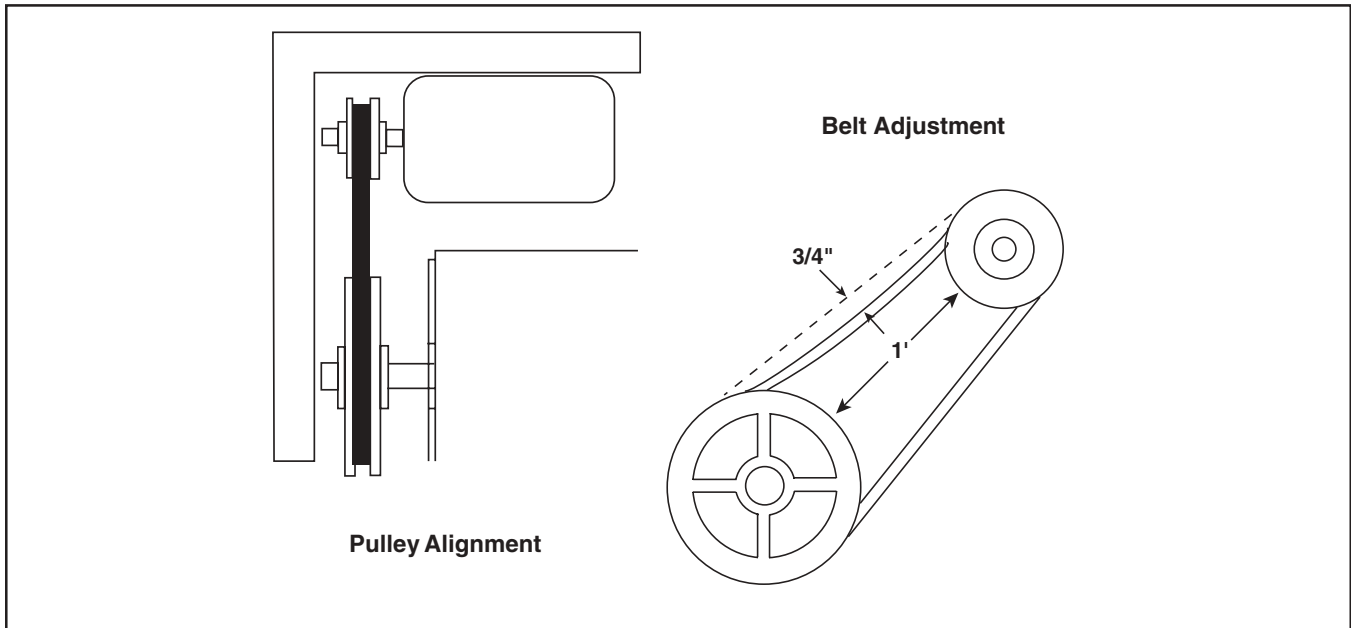

Figure 1. Belt Alignment and Tensioning
7. Mount new belt which came with kit and adjust tension. Ensure pulleys are in proper alignment with each other, shafts are parallel, and belt tension is proper. **DO NOT OVER TIGHTEN BELT CAUSING BEARING STRAIN.** As a result the unit could experience vibration and noise problems. A deflection of about $\frac{3}{4}$ " to 1" per foot of span should be obtained by pressing on the belt firmly. **See Figure 1.**
8. Secure all four (4) motor bolts to adjustable mounting base ensuring shafts stay parallel with each other while tightening.